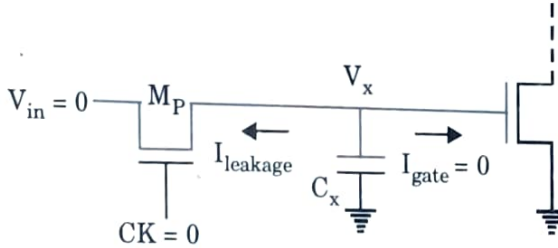

Fig. 3.4.1.
2. Let us assume that high logic has been transferred to the soft node during active clock pulse, and both the input voltage V_{in} and clock are equal to 0 V as shown in Fig. 3.4.1.